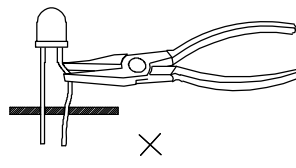

Fig. 7
- ### 6. During lead forming, use tools or jigs to hold the leads securely so that the bending force will not be transmitted to the LED lens and its internal structures. Do not perform lead forming once the component has been mounted onto the PCB. (Fig. 7)